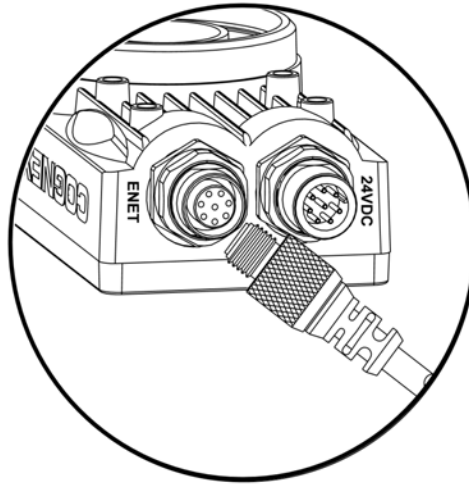

Figure 3-3: Connect the Network Cable
1. Attach the male M12 connector of the Ethernet cable to the sensor's female M12 ENET connector (Figure 3-3).